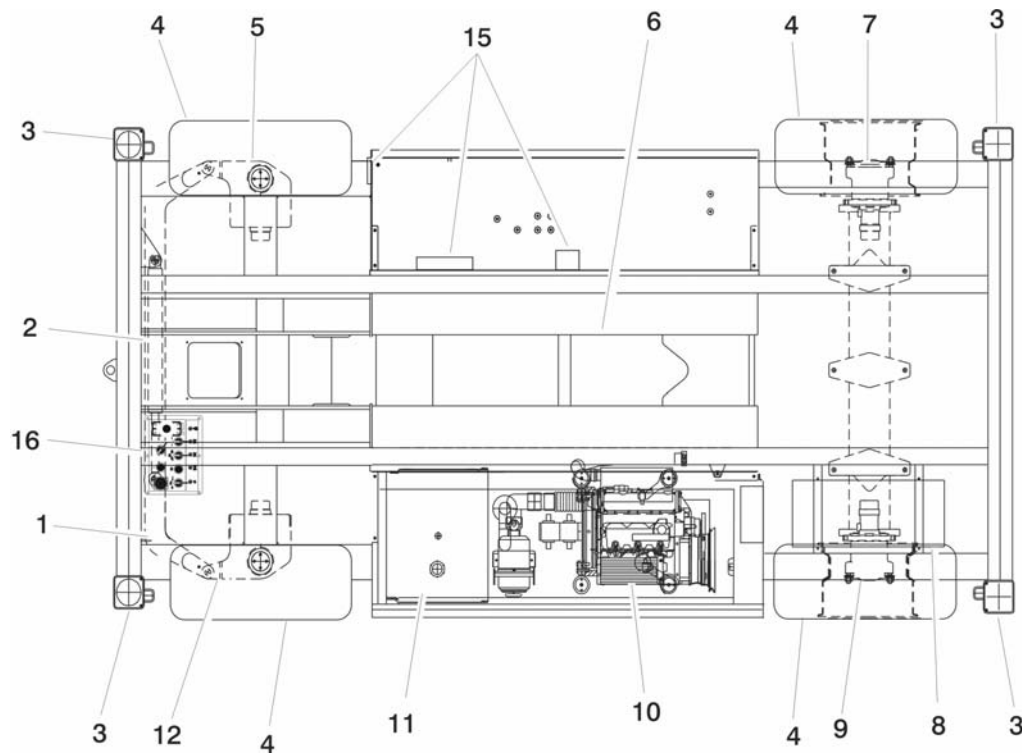

Figure 2-1. Walk - Around Inspection Diagram
5. **“Walk-Around” Inspection** - Refer to Figure 2-1.